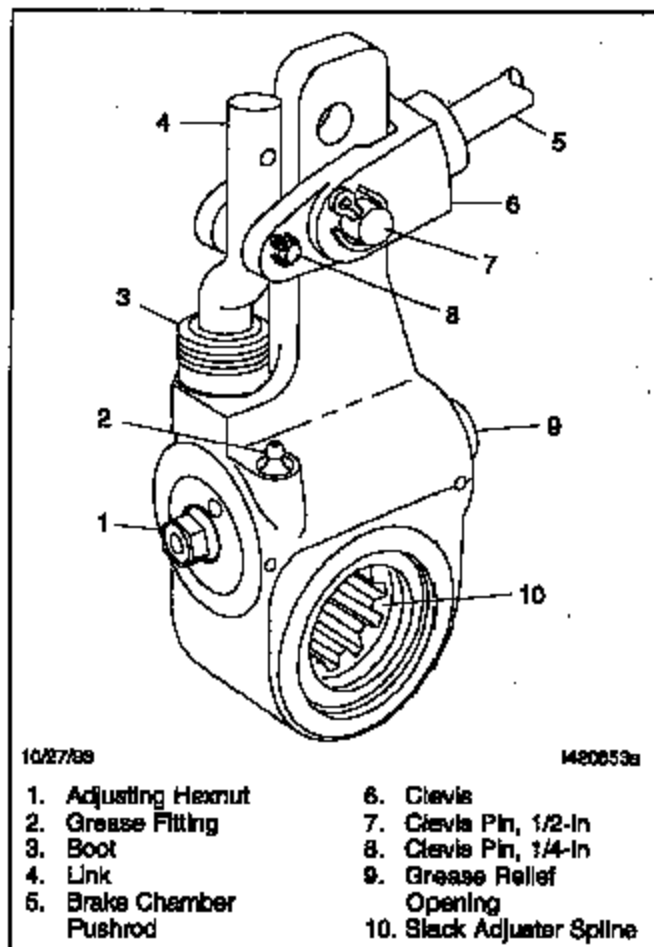

Fig. 4, Gunite Slack Adjuster
3. Install the new clevis on the slack adjuster. See Fig. 4.